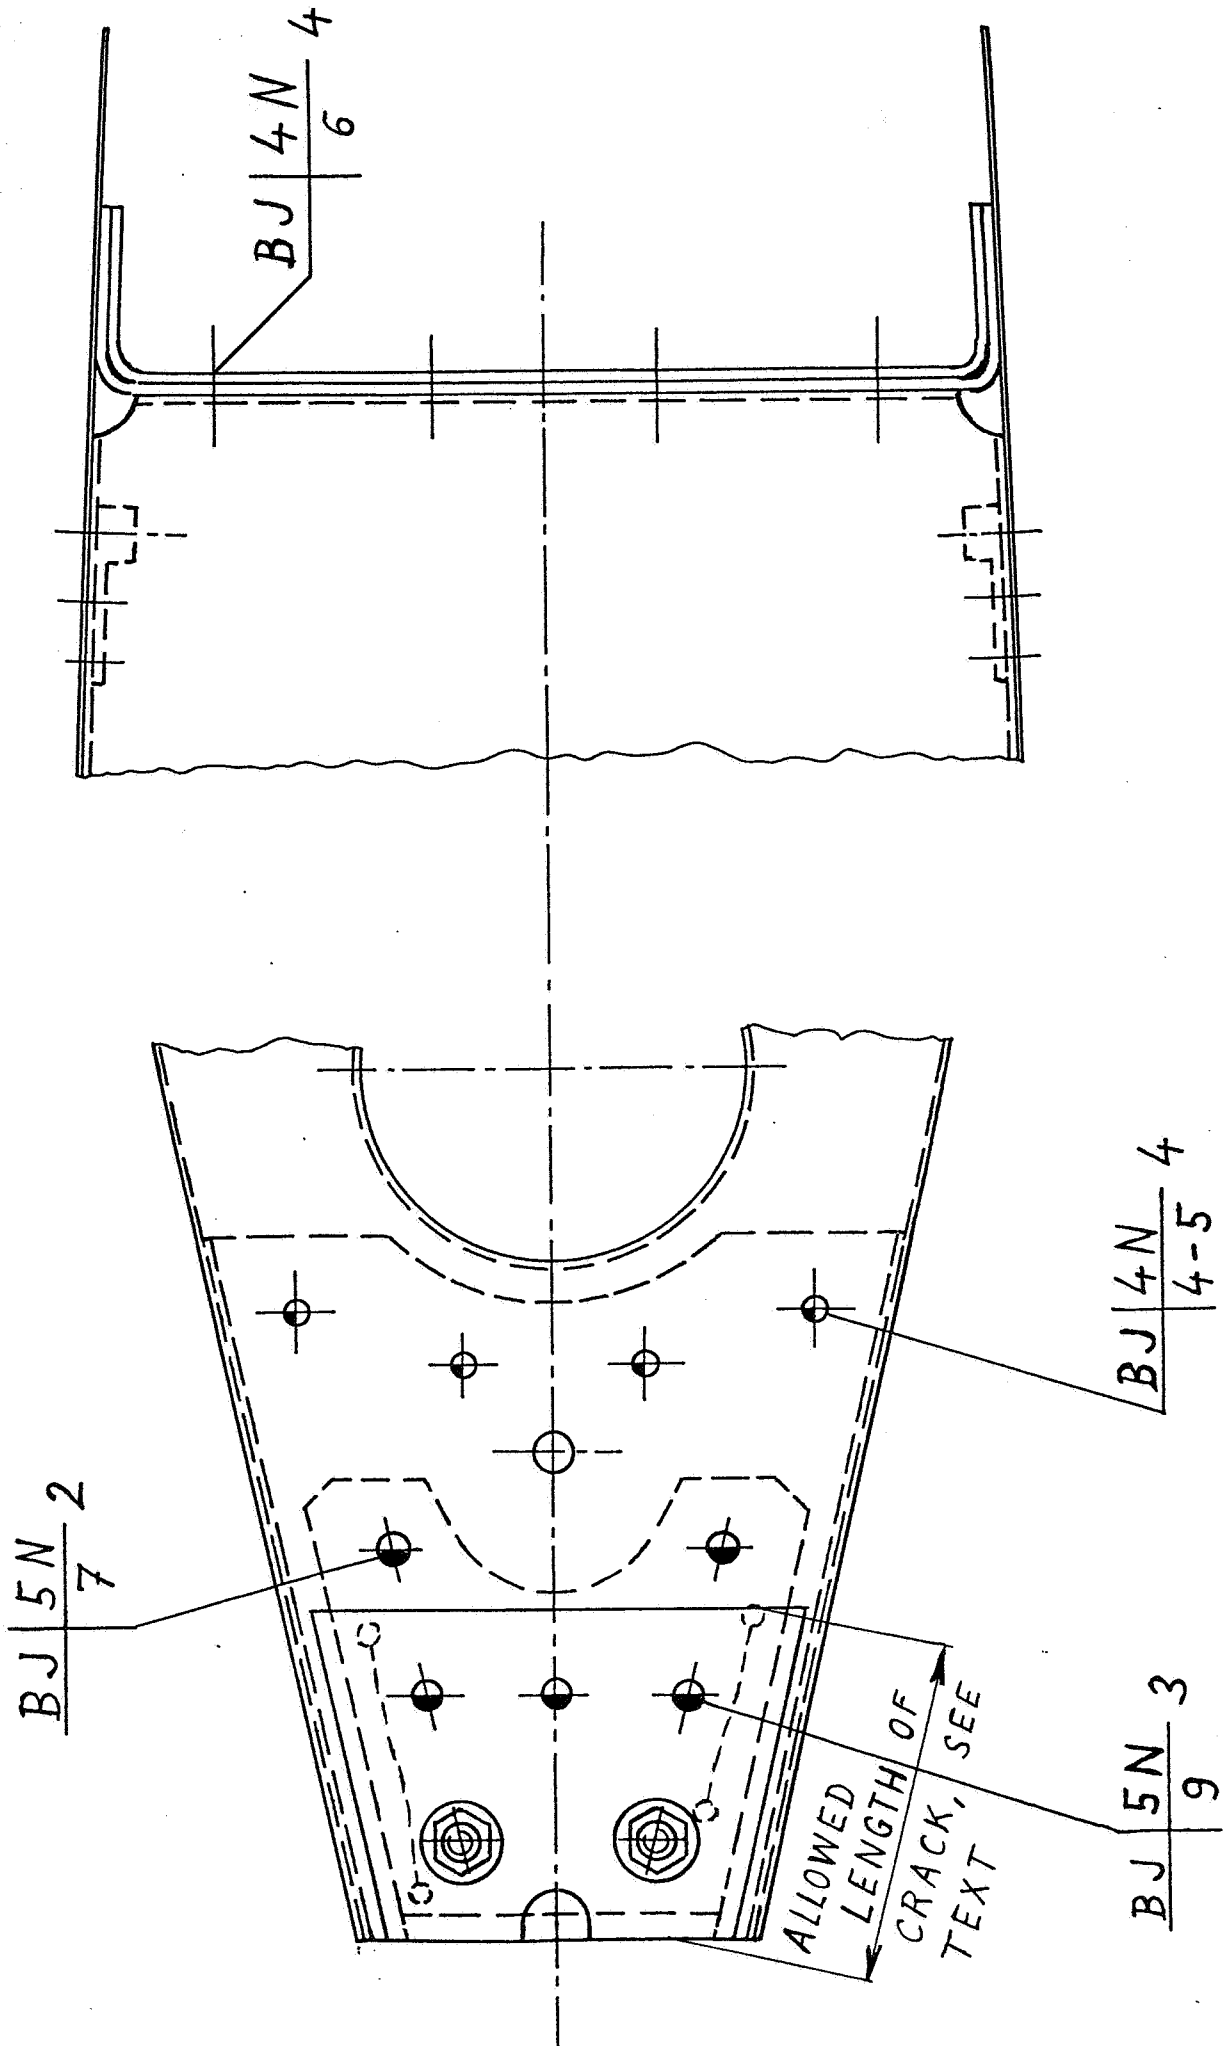

FIG. 2
- Check rib 1 for cracks on the forward attachment. If cracks exist, drill end of the cracks with diameter 0.1" (2,5 mm) hole. If cracks as shown in Fig. 2, exceed 1 3/4" (44 mm), rib should be replaced.
- Install the bracket (Item 1) and filler plate (Item 2) with old joint angle on the rib 1. Riveting in accordance with Fig. 2, page 6
- Install the rib 1 in the vertical stabilizer structure. Riveting on the skin and on the spar in accordance with Fig. 2,3, page 6 and 7